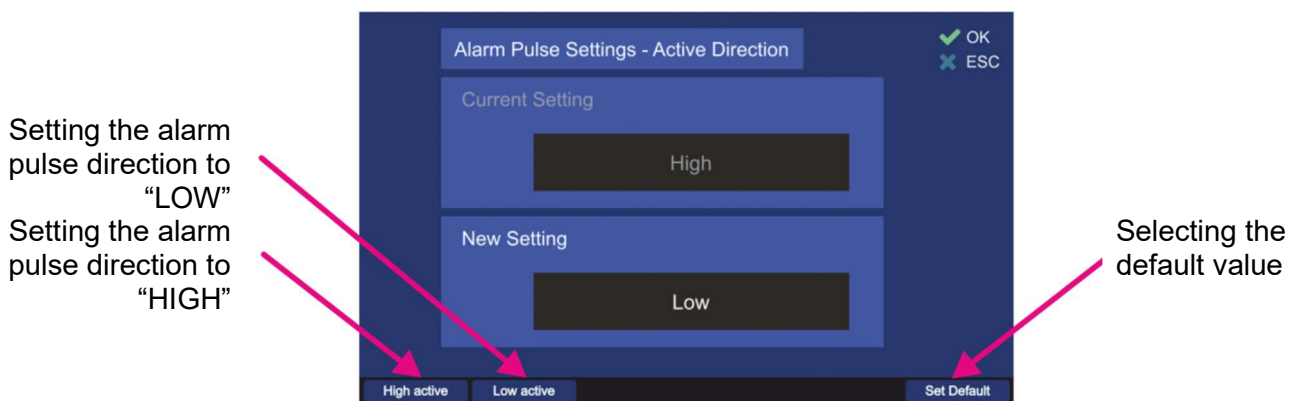

Figure 113. Active direction dialog
- By pressing the hotkey "Edit Value", the dialog for changing the active direction of the alarm output will be opened. The handling of this dialog is shown in Figure 113.